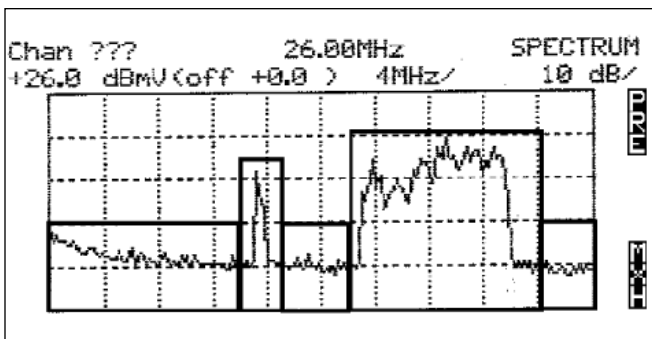

Figure 9. Using a hardcopy of the spectrum display to help define threshold windows.
**Step 5.** Enter the parameters for the window you want to create. When creating threshold windows, a hardcopy of a normal ingress spectrum can be used as a template. Figure 9 shows a sample ingress spectrum that has been marked up for threshold windows. Figure 10 shows the limits as entered into the RFM151.
Now that the monitoring windows are set, it's time to set the spectrum mode controls. It doesn't matter where the windows are set, if the RF analyzer is not set up to view that spectrum, they won't work. The default display for this mode is 10 divisions and no markers. This allows a maximum display of 40 MHz. For the example in Figure 9, set the center frequency to 26 MHz and adjust the reference level and vertical resolution according to your preference. It's best to have the vertical set at 5 or 10 dB/div